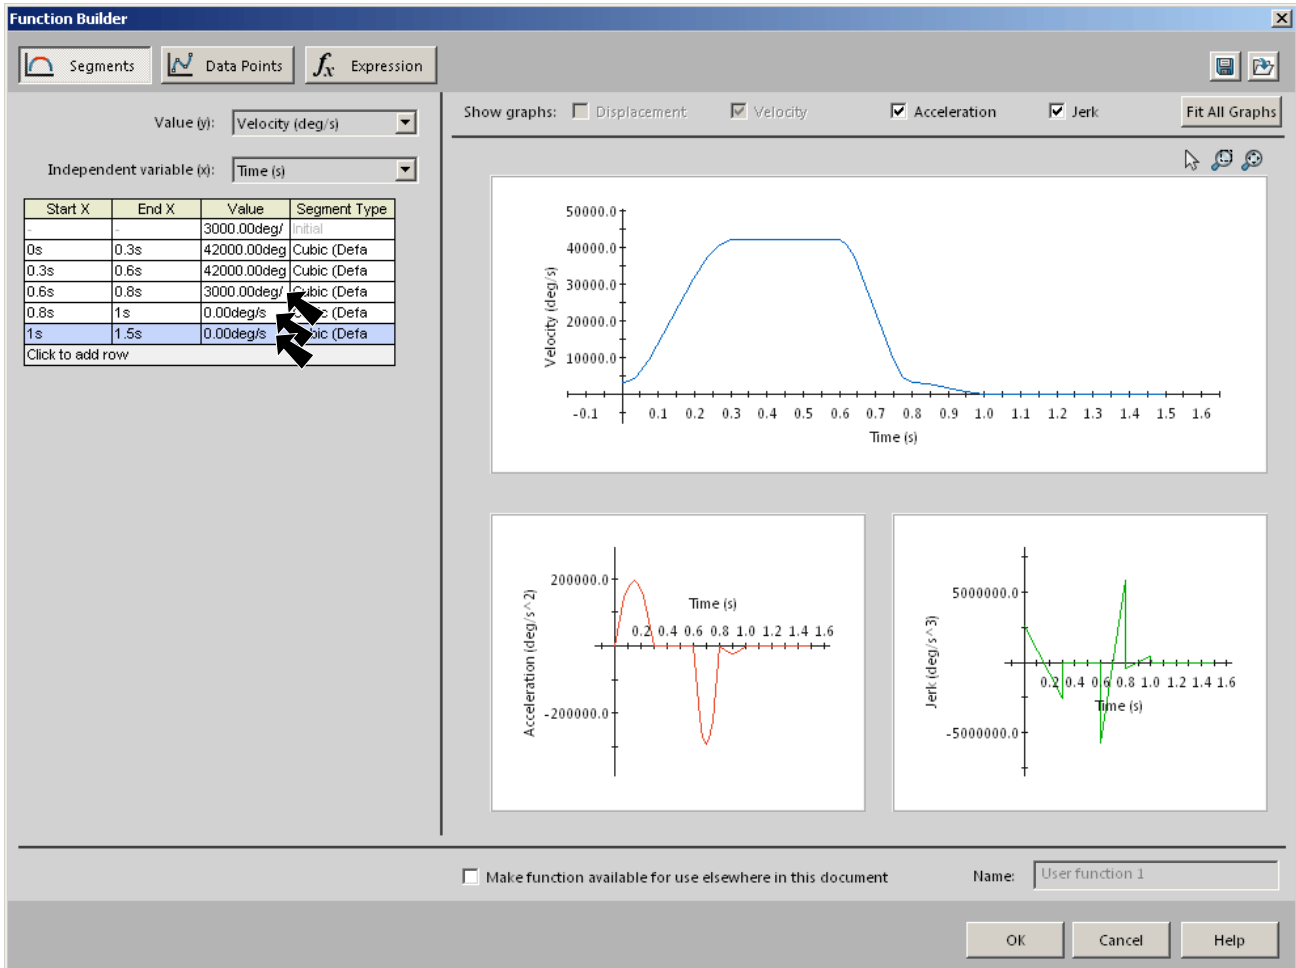

Fig. 10
Step 7. In the Segments chart add 3 more Rows, Fig. 10